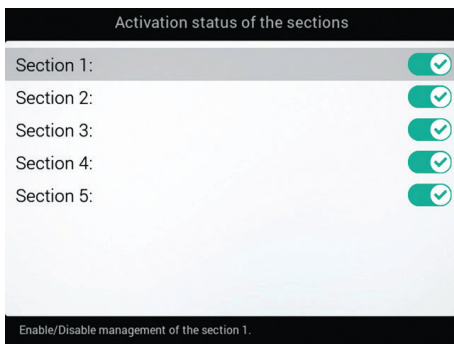

Fig. 42
- Repeat the setup for each section (Fig. 42), by disabling the disconnected outputs.